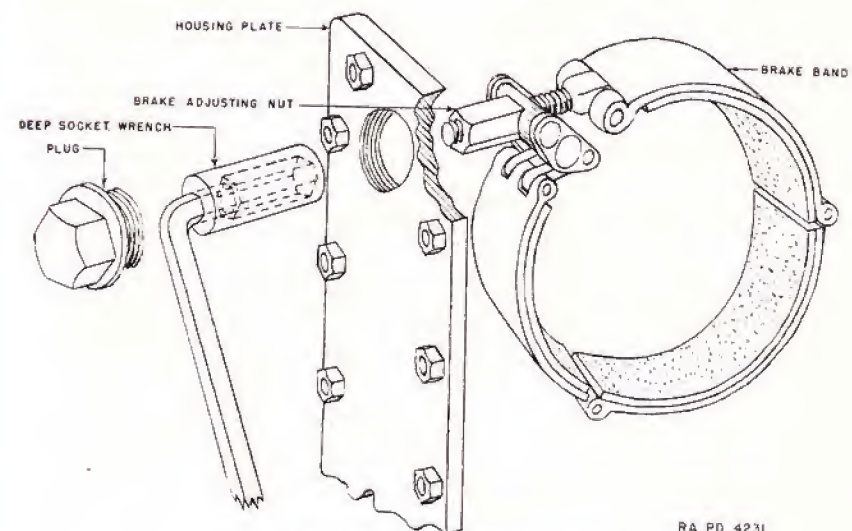

FIGURE 45.—Adjustment of steering brake.
87. Adjustment of steering brakes.—The adjustment of the steering brakes is extremely important and only specially qualified mechanics should be permitted to perform it. Figure 45 illustrates the adjustment of the steering brake. Both bands should be adjusted equally and the linkage to the levers then set so that the bands contact the drum at the same time when the steering levers are pulled back evenly.